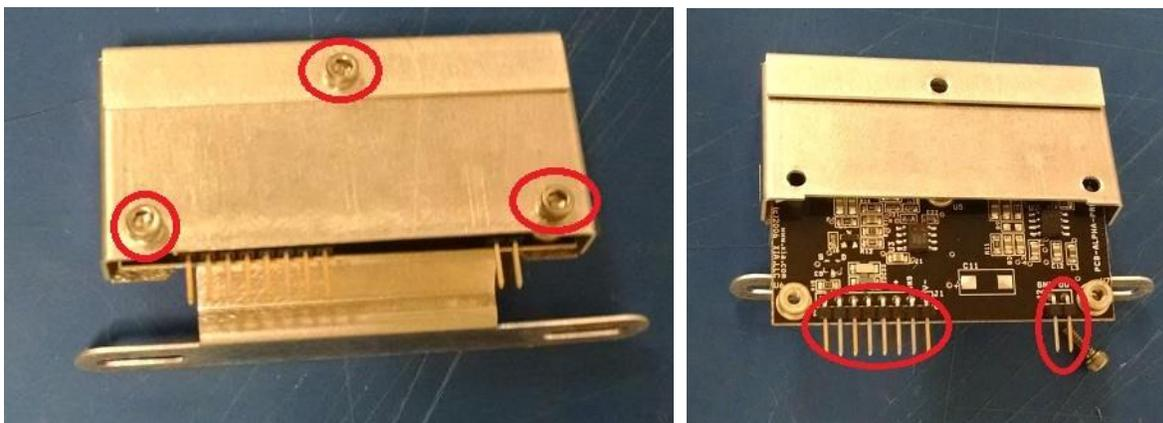

Figure 2: Left: screws to remove to take preamplifier PCB out of housing. Right: Do not touch the sensitive signal nodes circled in red.
4. Using either the 3/32" or 1/16" hex key, as appropriate, remove the preamplifier PCB from its housing (see Figure 2). Carefully set aside the original preamplifier PCB.
5. Slide the new preamplifier PCB into the housing, being sure not to touch the signal input connectors (see Figure 2).